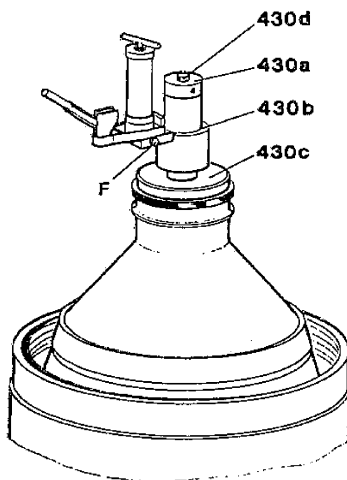

Fig. 4/3b
- 16) Before screwing in the bowl lock ring, compress the disc stack by means of compressing device 430 (fig. 4/3b) in the following manner (see also sect. 4.6):
- Screw bolt 430d down into the distributor until there is a clearance of 32 - 35 mm between end thread of bolt and upper edge of pump tube (see fig. 4/10).